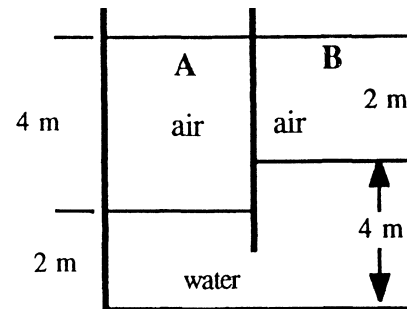

Fig. P2.14
**2.14** The closed tank in Fig. P2.14 is at 20°C. If the pressure at A is 95 kPa absolute, determine  $p$  at B (absolute). What percent error do you make by neglecting the specific weight of the air?